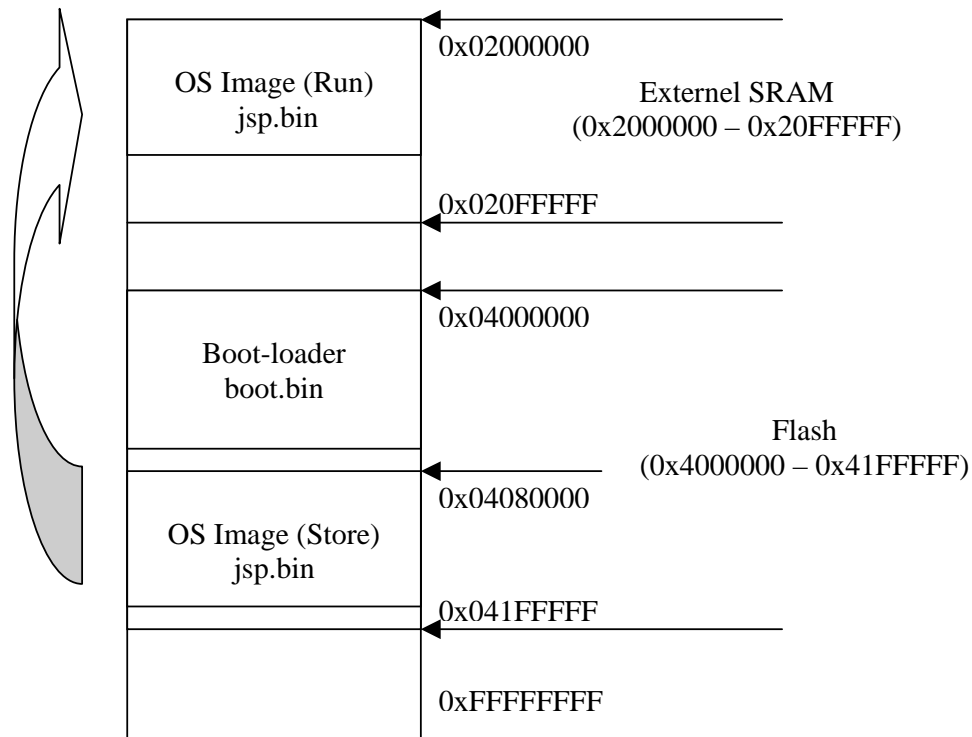

Figure3: Image Distribution Chart.
According to the Figure3, assume to program the OS image (jsp.bin) to the flash address 0x04080000, file size is 31764(bytes).
Step5: Delete the flashprog.bin, copy the boot.bin to the "CFIFlashProgrammer" project root directory and rename the boot.bin to flashprog.bin, then open the flashprog.txt and modify the two lines, the first line was modified to 0x04000000 according to the Figure3, the second line was updated to 768 (bytes) according to the size of the boot.bin.